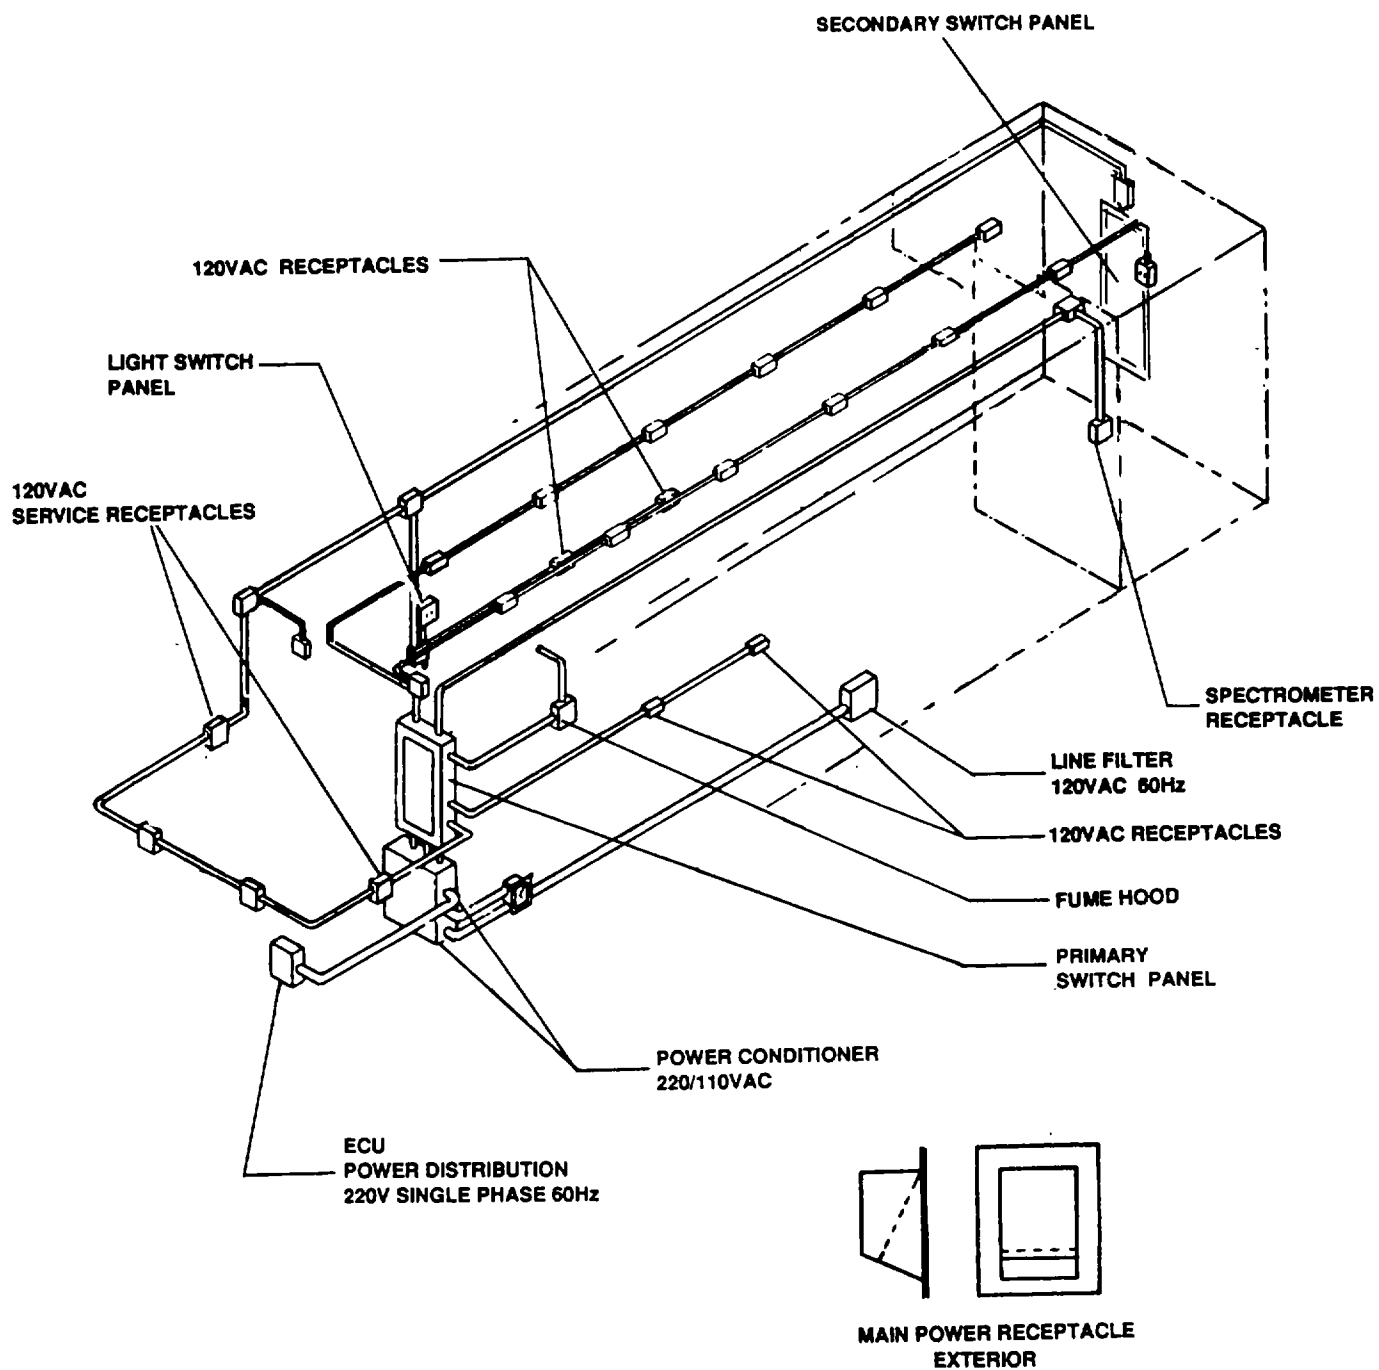

Figure 1-6. Electrical Distribution System
c. *The Electrical Distribution System (Figure 1-6)* is 208-240 volts at 50-60 hertz. A power regulator (shielded and grounded) is utilized to regulate the voltage requirements of both the primary and secondary electrical systems. The primary electrical system provides power to the four air conditioning units, the 12 heating elements, the purging fan/blowers, water pump, the air compressor and vacuum pump, and laboratory equipment requiring 220 volts. The primary circuit panel is located on the roadside of the interior bulkhead dividing the utility and the main laboratory compartments. The secondary electrical distribution system provides power for lighting and the laboratory equipment requiring 110 volts ac. The secondary circuit panel is located in the aft compartment, on the curbside interior wall. Instruments and gages deemed necessary for monitoring of service systems operating conditions are integral to the secondary circuit panel (i.e., vacuum gage and pressure gage). A power entry receptacle is located on the forward roadside exterior of the trailer. Located adjacent to the receptacle is a timer used to activate the environmental control units when purging the laboratory of toxic fumes prior to entry. A cable reel assembly is provided on the undercarriage of the trailer. The assembly contains the 100-foot cable required to interface with the 60 KW DED generator set. The AOAP Mobile Laboratory has a 24-volt dc, emergency electrical system. Each of the van's three compartments contains one 24-volt emergency lighting fixture capable of adequate illumination during emergencies. The batteries supplying the 24 volts required for the system, two 12-volt MS35000, are located in the cable reel box. A battery charger is also provided to maintain battery charge while the laboratory is deployed. Laboratory equipment permanently affixed to countertops or anchored in place is "hard wired" through switchboxes or motor starter-relay boxes mounted on the curbside or roadside walls, as applicable. Wall outlets are provided at 3-foot intervals above the counter surfaces. All outlets are "one-way" 110 volts ac. A microswitch is installed in each of the two trailer access door frames. Each compartment is provided with an override switch to bypass the microswitch circuit for the door accessing it. Under normal conditions, opening either van access door activates the blackout lamp(s) and deactivates the incandescent and/or fluorescent lighting in the compartment serviced by that door. The power required by the computer and its peripherals is filtered, shielded, and buffered. No additional power taps are available on the computer line other than those required by the data system. The line runs from noise filter located in the primary switch panel directly to the computer cabinet.